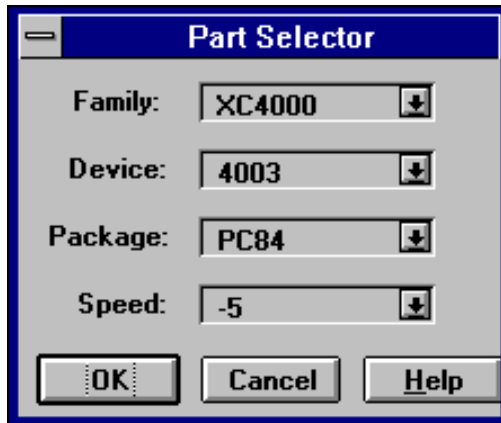

Figure 3-10 Part Selector
- If you did not specify the device type in the design file using the PART attribute, deselect the Read Part From Design check box in the Translate Options dialog box, click on the Select Part button, and specify a part in the Part Selector dialog box that opens (see Figure 3-10).
The Part Selector dialog box opens as shown in Figure 3-10.